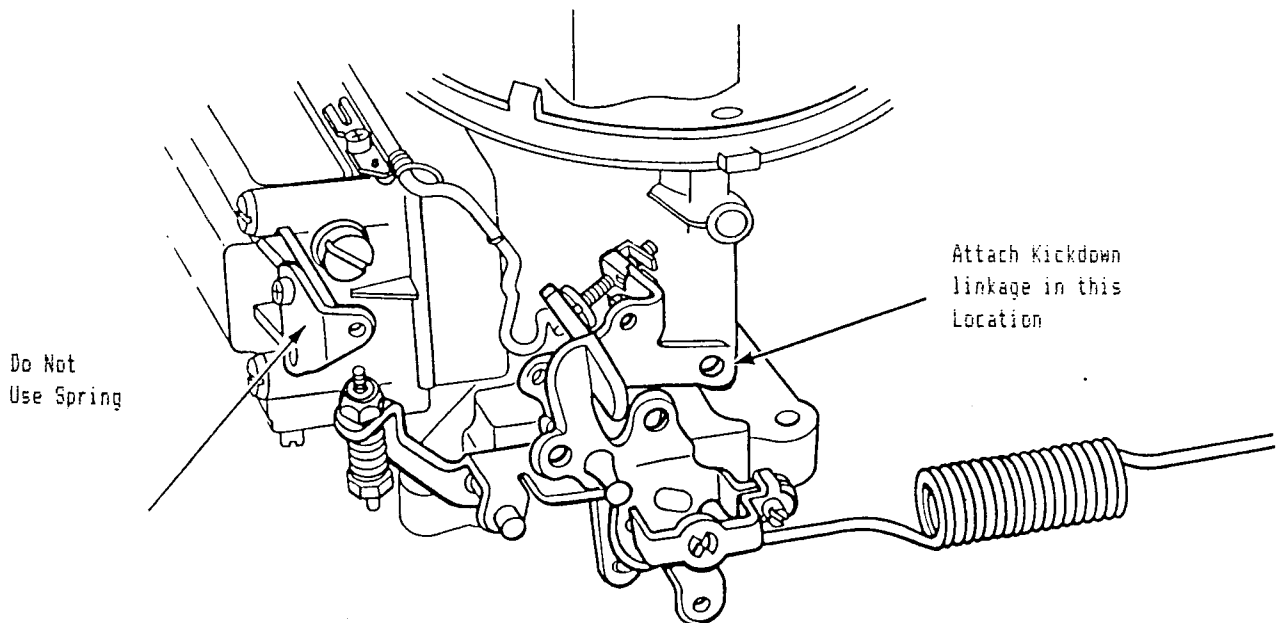

Figure 2
As shown in Figure 2 connect the choke tube and choke wire to the replacement carburetor. To install the choke wire, remove the top screw that holds the choke housing to the carburetor. Attach the choke wire end with eyelet terminal and reinstall screw. Slip the other end of the choke wire onto the negative (-) terminal of the choke cap. Shown below is the assembly procedure of the choke tube.
1. Remove 1/8" pipe plug as shown and connect a 0-100 psi pressure gauge (with a long flexible hose) to the throttle valve pressure tap located on the right side of the transmission. See Figure 2.
For automatic overdrive transmissions (AOD), assemble the kickdown hardware according to Figure 2.